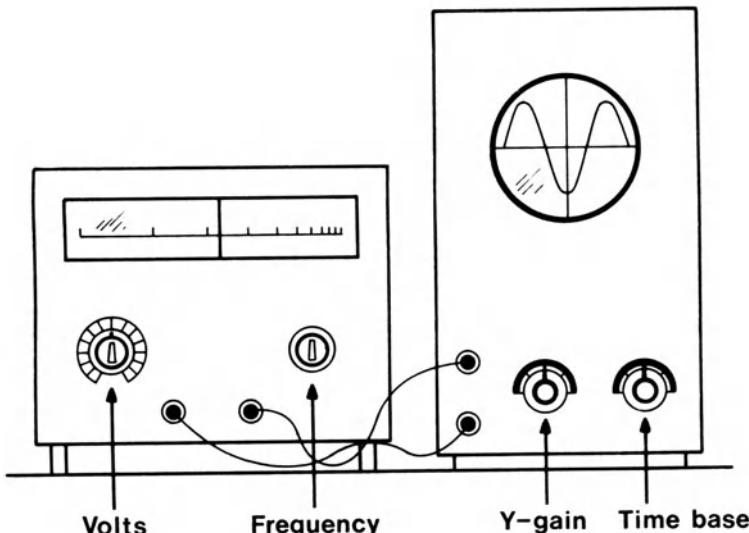

FIG. 3.40
30. Fig. 3.40 shows a signal generator being used to apply an alternating voltage to the Y-plates of an oscilloscope.